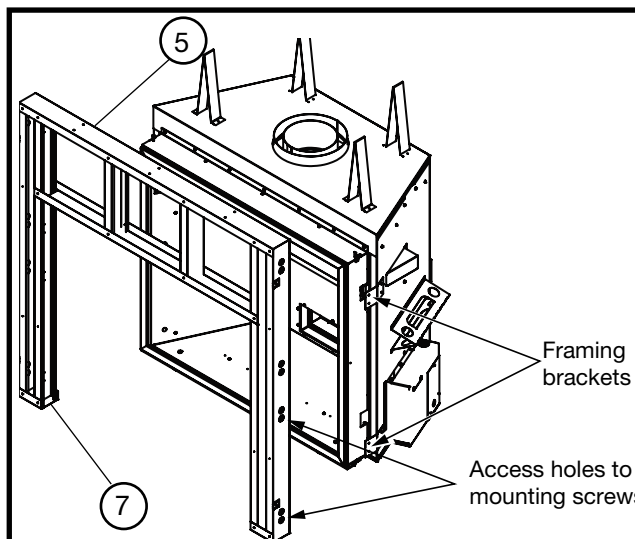

Figure 15: Assembled frame.
- Align the assembled frame to the unit framing brackets (see figure 15 and page 14). Set the depth of the framing Kit based on the depth to the edge of the Lintel needed for the final facing materials.